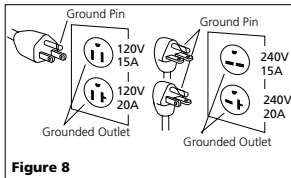

Figure 8
1. This product must be grounded. In the event of an electric short circuit, grounding reduces the risk of electrical shock by providing an escape wire for the electric current. Unit is equipped with a cord that has a grounding prong. It will fit one of the common outlet types shown in Figure 8. If plug will not fit in the desired outlet, have the plug or the outlet replaced by a qualified electrician.
1. If the plug on the electrical cord of the unit is unfamiliar to you or will not fit your particular receptacle, Figure 8 will help you understand why by illustrating the different plugs and the voltages they are to be used with.
Dual voltage motors may be connected for either 120 volts or 240 volts. By comparing the plug on the cord with the receptacles shown in Figure 8, you can determine for which voltage your compressor is factory wired. Also check motor decal to change from low voltage to high voltage.